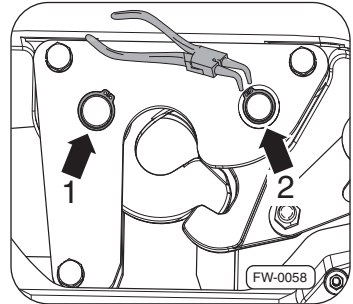

Fig. 31 · Removing the circlips
4. Remove the circlips ⇒ Fig. 31, -arrow 1- and -arrow 2-.